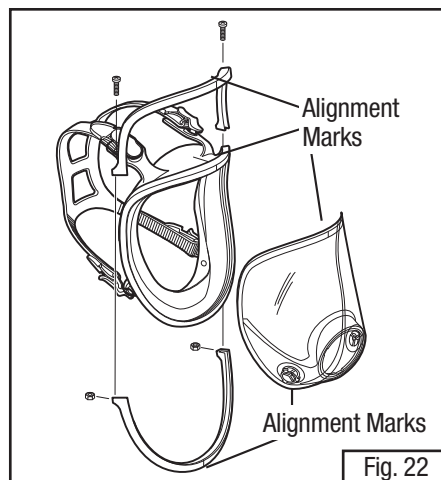

Fig. 22
3. Remove the (2) Phillips screws from the lens/facepiece frame. Pull the frame top and frame bottom away from facepiece.
5. Place new lens and facepiece together aligning marks at top and bottom. Position top and bottom frame, again aligning marks top and bottom. Install and securely tighten screws. Make certain alignment marks are properly aligned top and bottom with all components (Fig. 22).
2. Position bottom frame, aligning center vertical mark, and press in place (Fig. 22).